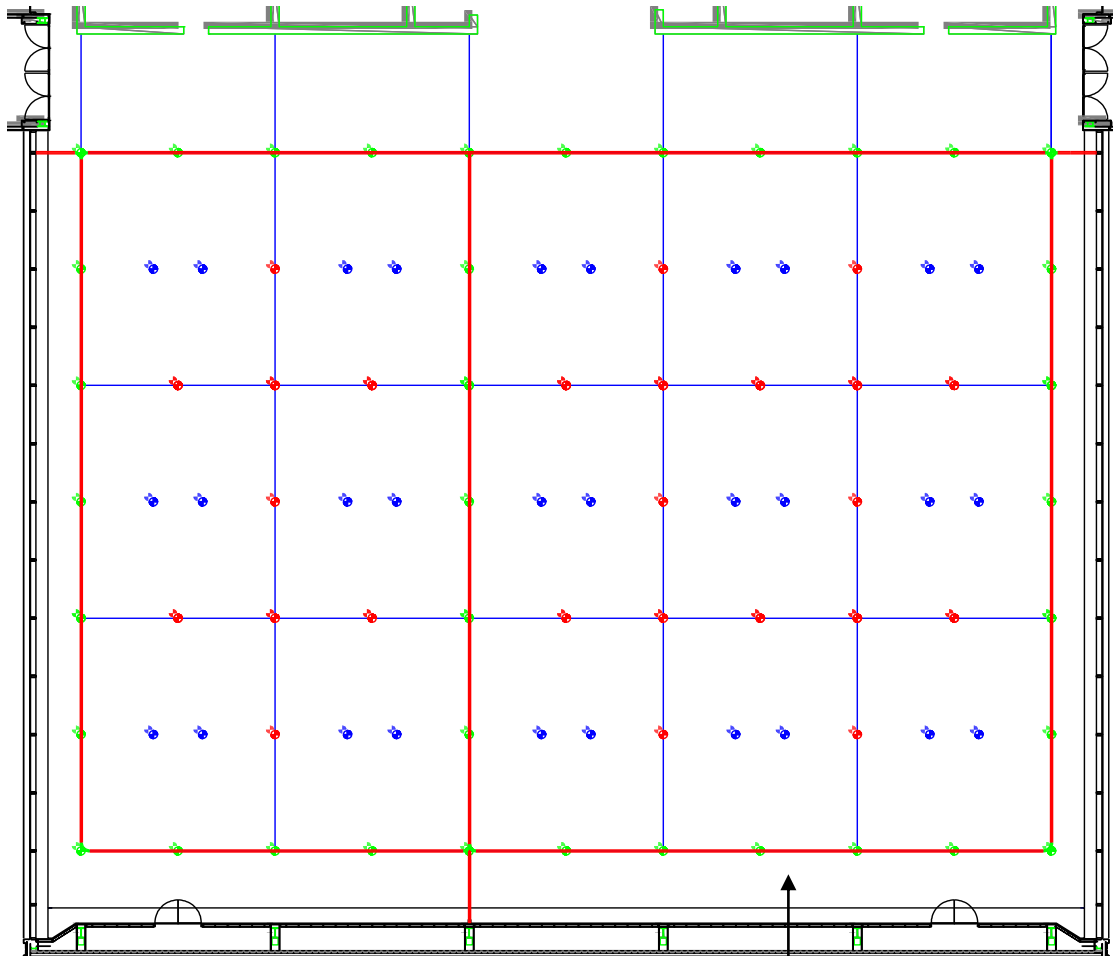

Figure 2 Suspension points in the Elicium Ballroom
6. For multi-point bridles (bridles), the inside angle must be less than 120 degrees (see Figure 2).
In the Elicium Ballroom, vertical rigging is possible from suspension eyes in the ceiling. There are a total of 92 possible suspension points. 62 suspension points are located at a height of 6.80 metres (see red dots in Figure 2) and 30 suspension points at a height of 8.70 metres (see blue dots in Figure 2).
Note: Rails are installed in the roof (see Figure 2). Specially designed suspension eyes can be fitted at the locations indicated (green dots), provided that there is no partition wall fitted to the rails. These suspension eyes are to be requested via the Account Manager of the RAI.